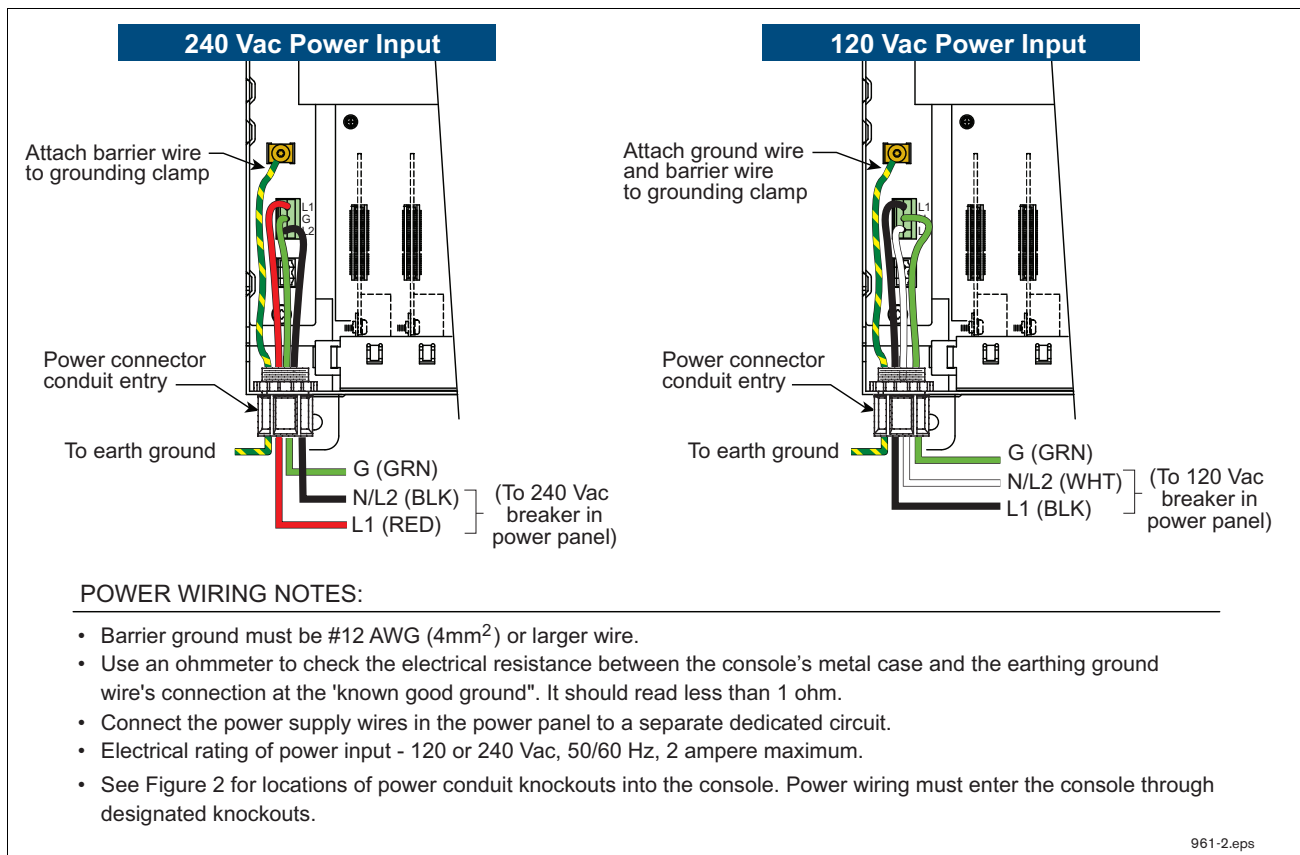

Figure 3. Wiring AC Power to the TLS-450 Console
4. We're done with the power trough now, so you can seal it up. Next strip the ends of the wires that you brought into the console. Referring to Figure 3 and to the locations printed where the power connector attaches to the console, attach the L1, panel ground and neutral wires to the connector block.